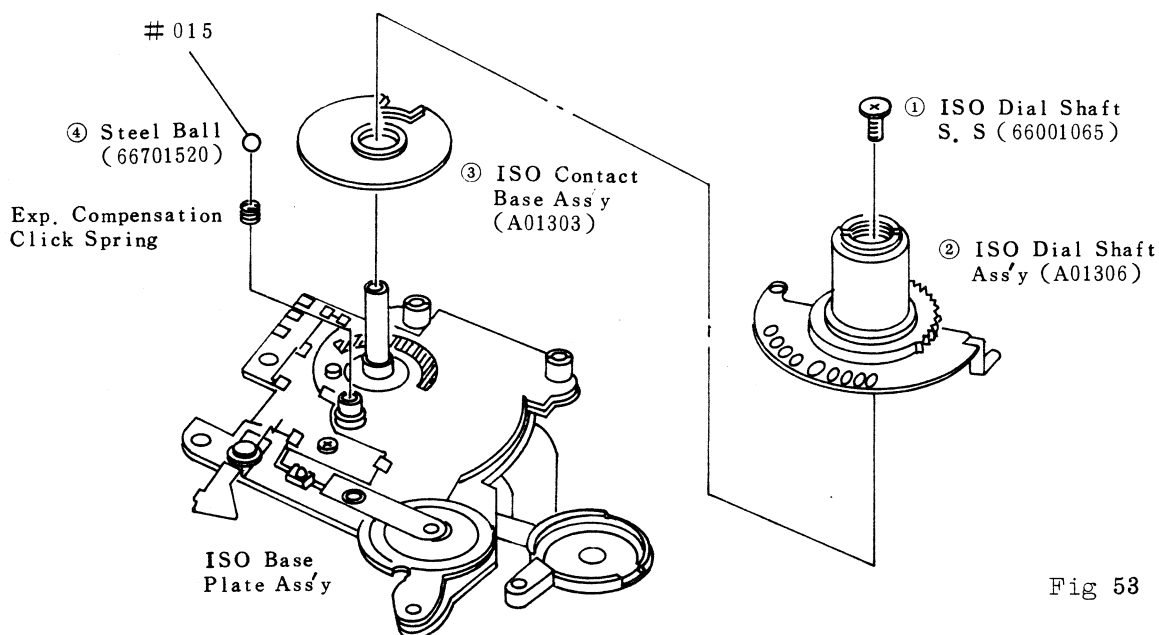

Fig 53
m) Remove the respective parts ① ~ ④ shown in (Fig 53) in numerical order.